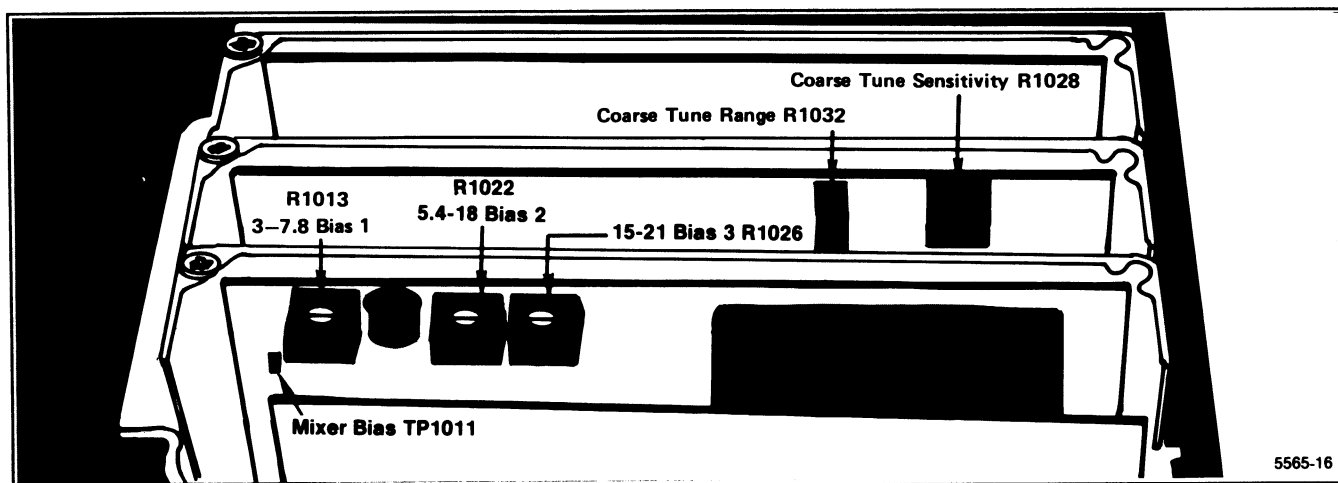

Figure 5-11. 1st LO Driver board adjustment and test point locations.
b. Monitor TP1011 on the 1st LO Driver board (Figure 5-11) with a voltmeter (voltmeter between TP1011 and crt shield).
c. Adjust R1013 (Figure 5-11) for a reading of -1.0 V.
a. Monitor TP1011 on the 1st LO Driver board (Figure 5-11) with a voltmeter (meter ground at crt shield). Adjust Bias 2 R1022 for a meter reading of  $-0.25$  V.